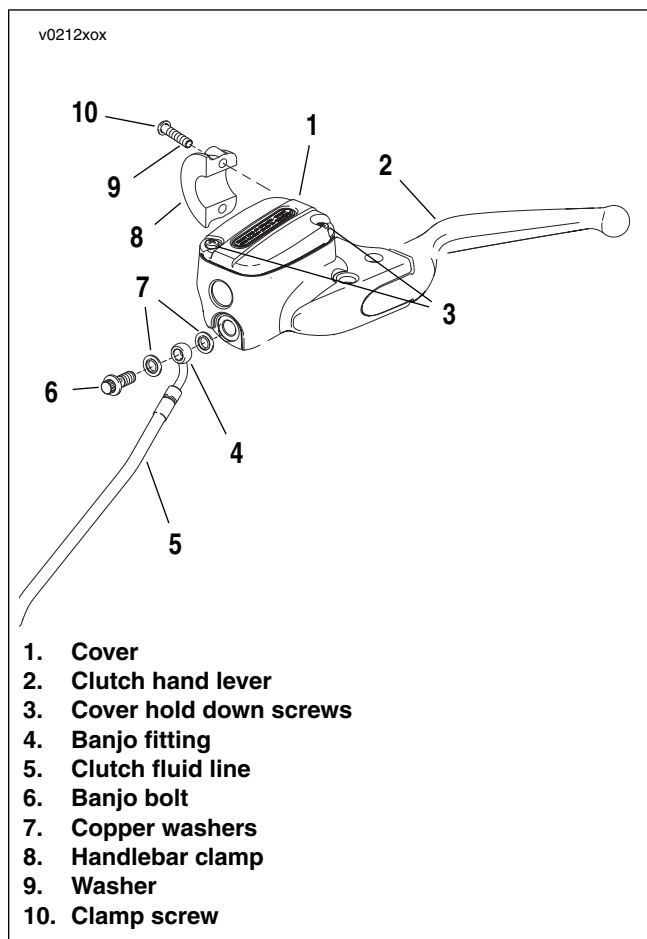

Figure 2-45. Clutch Master Cylinder/Reservoir
3. See Figure 2-45. Loosen, but do not remove, screws (10) with flat washers (9) that detach handlebar clamp (8) from clutch master cylinder/reservoir.
4. Loosen both screws (3) on cover (1) to relieve pressure in master cylinder reservoir.
1. See Figure 2-45. Attach master cylinder/reservoir to handlebars with handlebar clamp (8). Orient lever to rider position and tighten two clamp screws (10) to 8-9 Nm (71-80 **in-lbs**).
2. Attach banjo fitting (4) of clutch fluid line to master cylinder with **new** copper washers. Install electrical controls.